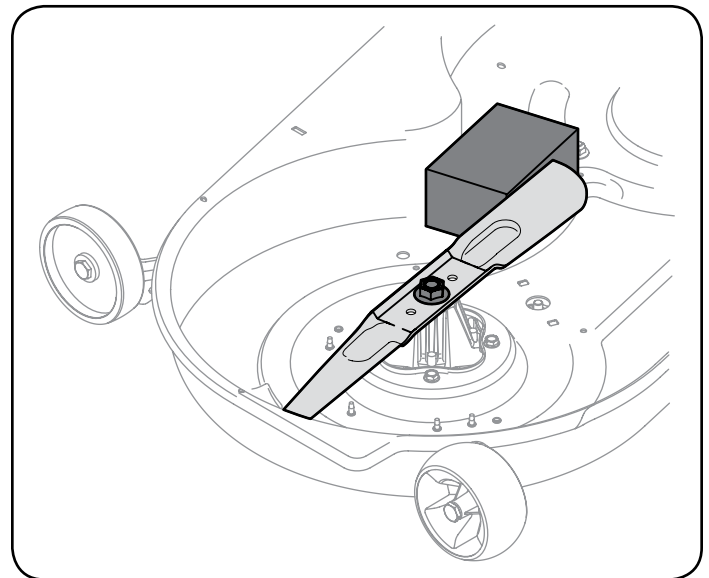

Figure 29
2. Place a block of wood between the deck housing baffle and the cutting blade to act as a stabilizer. See Figure 29.
3. Remove the hex flange nut that secures the blade to the spindle assembly. See Figure 29.